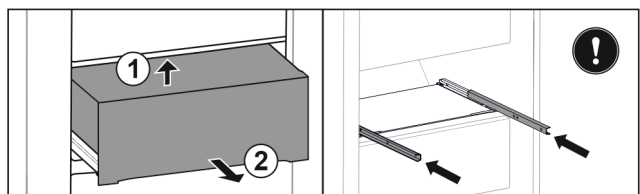

Fig. 52
- ▶ Lift drawer from below. Fig. 52 (1)
- ▶ Remove drawer to the front. Fig. 52 (2)